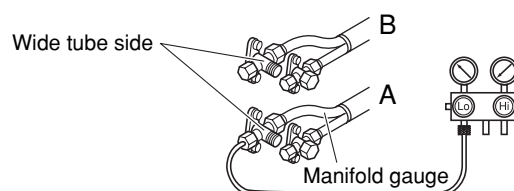

Fig. 23
- (2) Connect the manifold gauge to the charging port at the valve on the wide tube side of tube B. Purge the air from the charging hose. (Refer to Fig. 23.)
- (3) Perform cooling operation or forced cooling operation. When the pressure at the low-pressure side is 0.15 – 0.2 MPa (0.5 – 1 kg/cm²G), fully close the spindles at the valves on the wide tube side of tubes A and B, and immediately stop operation. (Refer to Fig. 23.)